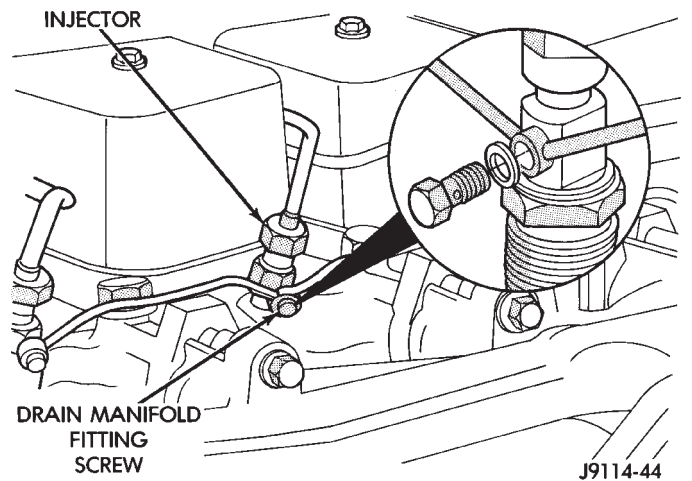

Fig. 11 Fuel Drain Fitting Screws
- (3) Remove fuel drain manifold fitting screws and washers at each fuel injector (Fig. 11).